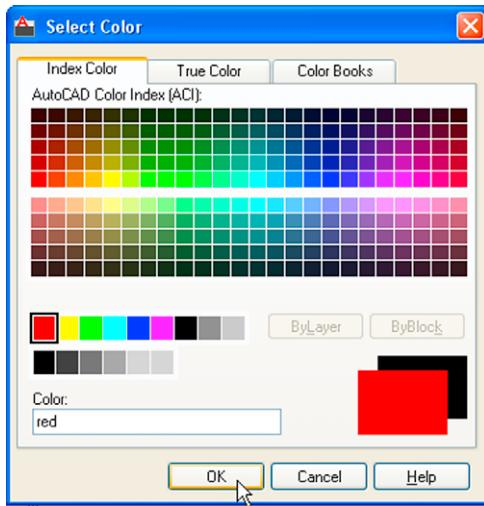

Fig. 4.17 The Select Color dialog
- Click one of the squares under the **Color** column of the dialog. The **Select Color** dialog appears (Fig. 4.17). *Double-click* on one of the colours in the **Index Color** squares. The selected colour appears against the layer name in which the square was selected. Repeat until all five new layers have a colour.